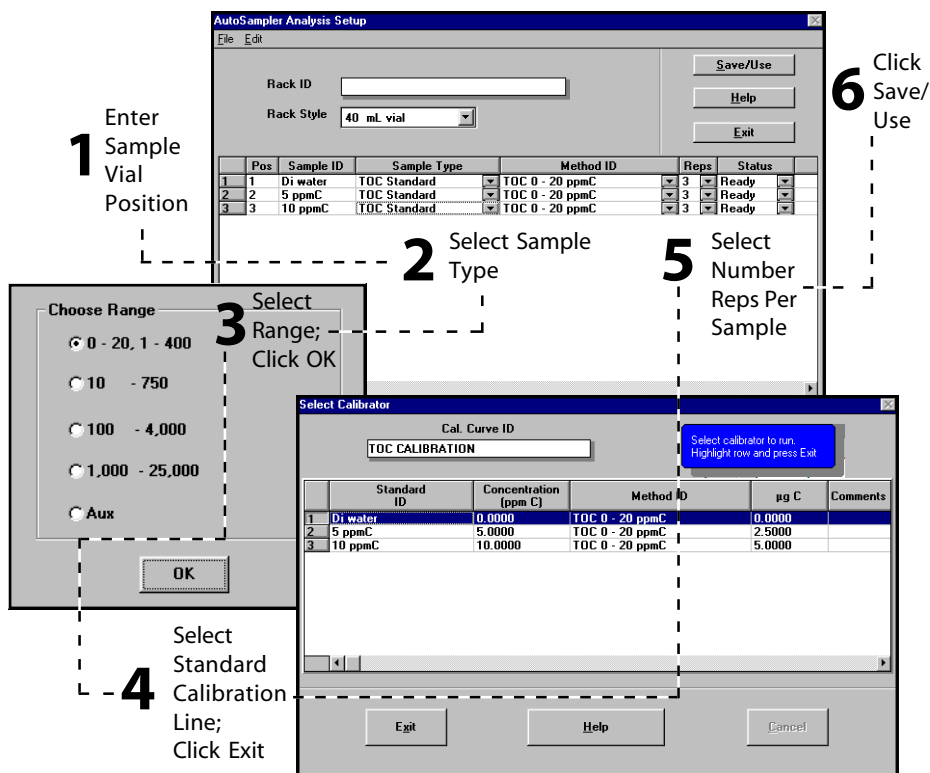

Figure 4.3.5 Standard Calibration Analysis Setup (with Autosampler)
3. Enter the autosampler vial position in the Pos column (see Figure 4.3.5).